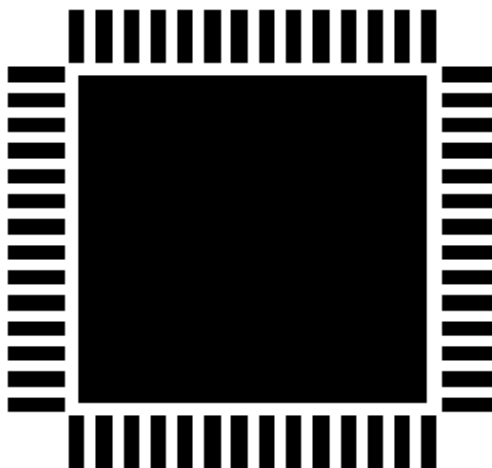

Figure 11: Recommended PCB Decal for 56TQFN Package
- The decal is shown in Figure 11. The pad stacks used are 0.25 mm by 1 mm for the smaller pads, and a 6.4-mm square pad for the paddle.